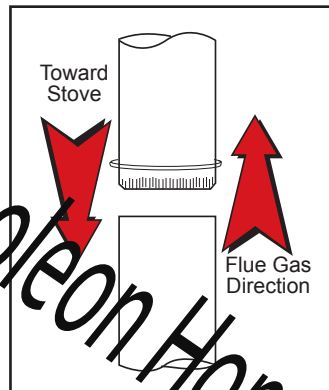

Figure 4 - Chimney connector.
- Begin assembly at the flue collar of the stove. Insert the first crimped end into the stove's flue collar, and keep each crimped end pointing toward the stove. (Figure 4) Using the holes in the flue collar as guides, drill 1/8" (3 mm) holes in the bottom of the first section of chimney connector. Then secure it to the flue collar with three #10 x 1/2" sheet metal screws. Lift off the griddle, and shield the stove's surface between the griddle opening and the front of the flue collar to protect the finish when you drill the front hole.